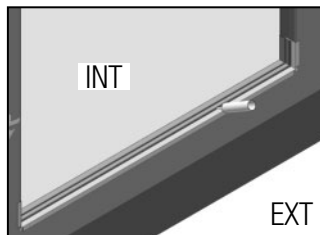

FIG. 8
- G) Apply two continuous, straight beads of 100% silicone sealant to the subfloor to seal the sill to the subfloor. (Fig. 8 & 9)